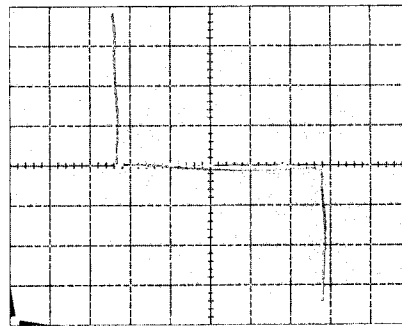

Figure 5-1. Gain curve with a 2-KΩ load, 1mV/div vertical sensitivity.
- 5) Check gain against limits — Press UPPER and LOWER STORE buttons on 577 to obtain a clear, lasting trace. If necessary, press UPPER and LOWER ERASE first to clear screen. Check to see that vertical displacement is within specified value [1 div, or 1mV] at specified points [+ and -2 divs from center], and that gain does not vary excessively over op amp's working output range. Refer to Figure 5-1. **3 2**